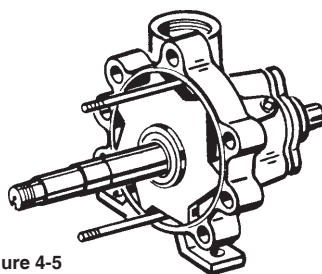

Figure 4-5
4. Slide this entire shaft assembly into the cover (#1BI). The drive end of the shaft will extend through the center hole in the cover; the diffuser will be contained within the large bore on the inside of the cover. (refer to figure 4-5) The two notches in the diffuser fit the guide rods.